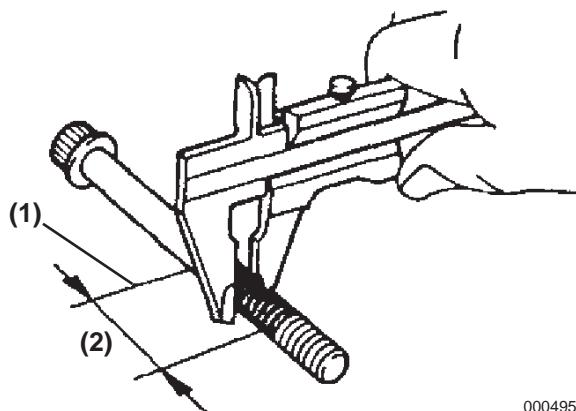

Figure 5-25
10. Measure the outside diameter of the cylinder head bolt threads using calipers (**Figure 5-25**). Inspect the bolts for damaged threads.